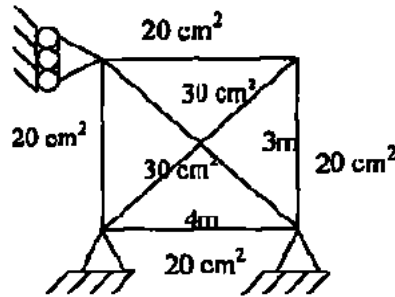

Fig.4
2. Analyse the truss shown in Fig.4 using displacement method.